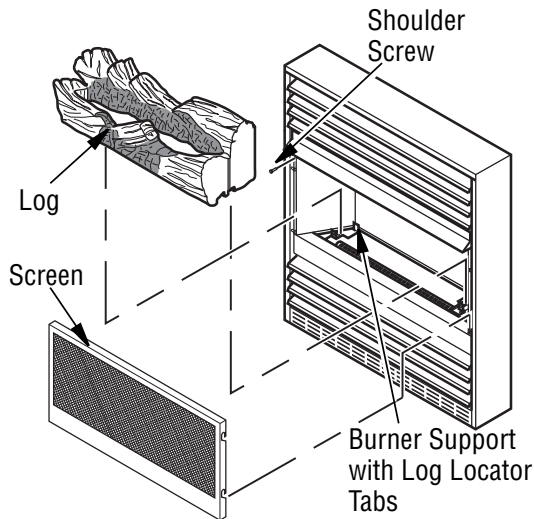

Figure 32 - Installing Log and Screen
1. Remove log packaging material and discard packaging. Gently place log on burner support (see Figure 32). Log should fit flat against top of burner support and log locator tabs fit into slots under log. Do not allow log to contact flame. If flame contacts log, soot will be created.